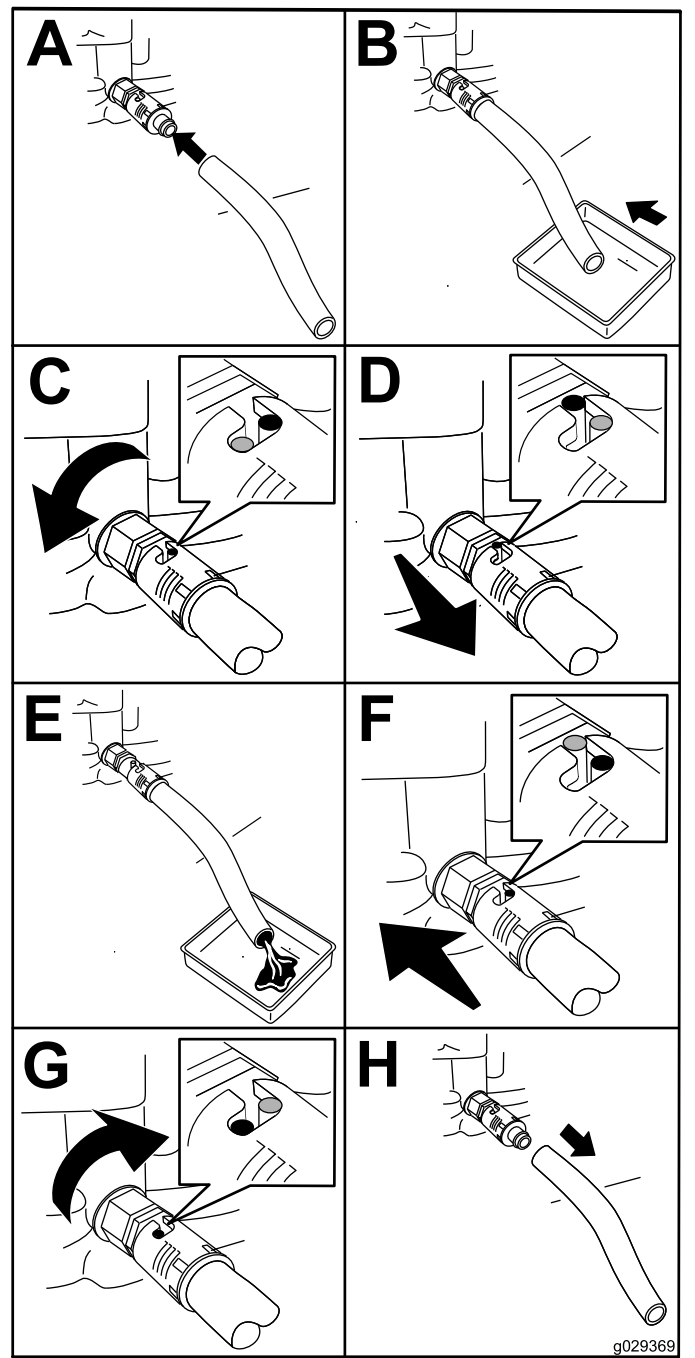

Figure 29
1. Install the drain hose onto the drain valve (Figure 29).
2. Place the other end of the hose (Figure 29) into a drain pan with a 1 L (1 US qt).
3. Turn the oil drain valve 1/4 turn counterclockwise and allow the engine oil to drain completely (Figure 29).
4. Turn the oil drain valve 1/4 turn clockwise to close the valve (Figure 29).
5. Remove the drain hose (Figure 29) and wipe any spilled oil.